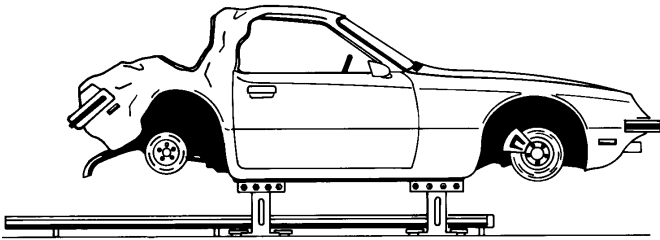

Figure 3
2. Place main ladder under portion of vehicle to be measured (front or rear). (See Figure 3.)